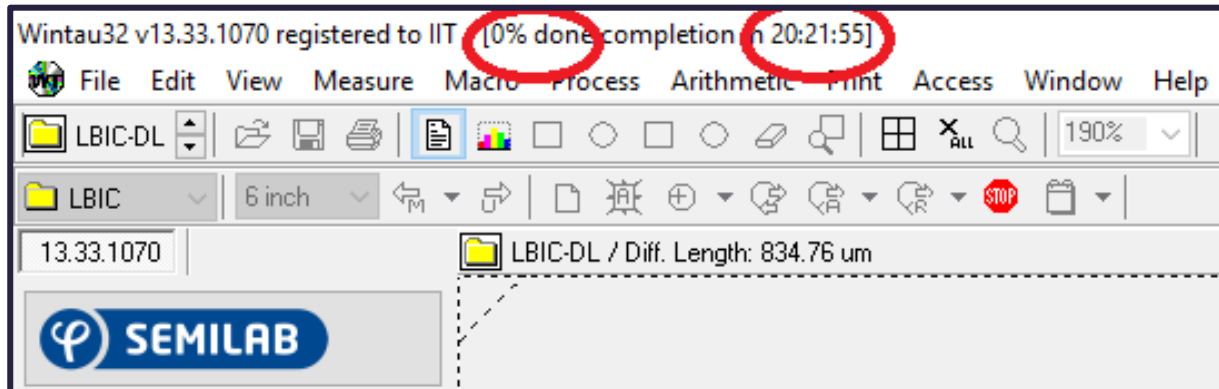

Figure. 16
16. Wait until the measurement completes. Time required for the measurement can be seen on status bar. (Figure. 16)